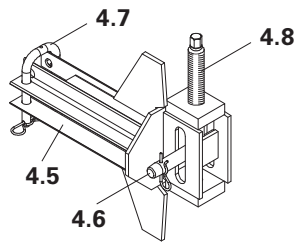

Fig. B2.09
2. Fix Connector TRIO-CB (4.5) to panel struts with bail pin  $\varnothing 25$  (4.7), see plans for arrangement. Centre distance = bracket spacing. By changing the mounting position of the adjusting spindle (4.8), the Connector TRIO-CB can be used cantilevering on the left or right. (Fig. B2.09 + B2.10)
3. Place Strongback CB (4) on the connectors. Bottom projecting length: see project drawings or C1.